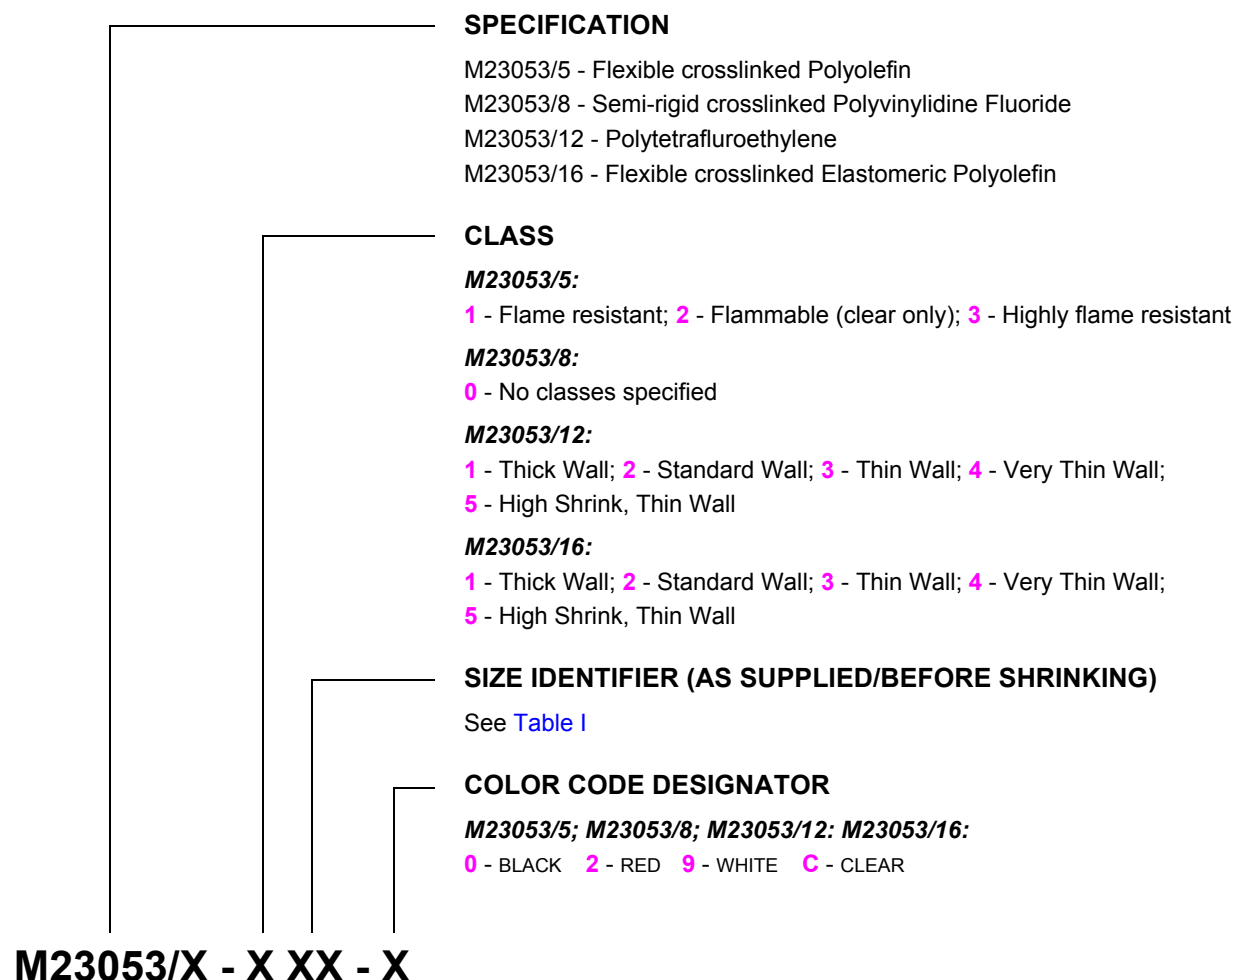

FIGURE 1 - PART NUMBER BREAKDOWN FOR HEAT SHRINKABLE TUBING
- Amended Figure 1 to include part number breakdown for AS23053/12 and AS23053/16 tubing.
4.1.2 Heat shrinkable tubing, bulk length, M23053/5 (135°C max.) or M23053/8 (175°C max.). See Figure 1 for a part number breakdown.
- 4.1.4 Heat shrinkable tubing, high temperature, TE Connectivity TFE and TFE-R (250°C max.), to AS23053/12 Class 3 and Class 5, as specified on the engineering drawing or wiring list. See Figure 1 for a part number breakdown.
- 4.1.5 Heat shrinkable tubing, TE Connectivity DR-25, Black, (150°C max.) to AS23053/16, as specified on the engineering drawing or wiring list. See Figure 1 for a part number breakdown.